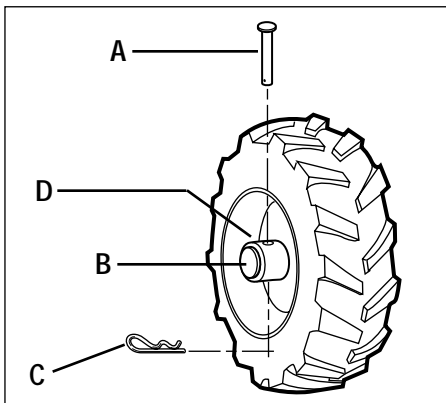

Figure 3-2: WHEEL DRIVE position.
Each wheel is equipped with a Wheel Drive Pin (A, Figures 3-2 and 3-3) that secures the wheel to the wheel shaft (B). The wheels can be positioned in either a WHEEL DRIVE or a FREEWHEEL mode.
3. Remove the wheel drive pin (A, Figures 3-2 and 3-3) by removing the hairpin cotter (C).
## 4. FOR WHEEL DRIVE mode (Figure 3-2):
Slide the wheel outward and align the holes in the wheel hub (D, Figure 3-2)) and the wheel shaft (B). Insert the wheel drive pin (A) through the wheel hub and the wheel shaft. Secure the wheel drive pin with the hairpin cotter (C) by pushing the hairpin cotter in as far as it will go. Repeat for the other wheel and then remove the support from beneath the transmission.